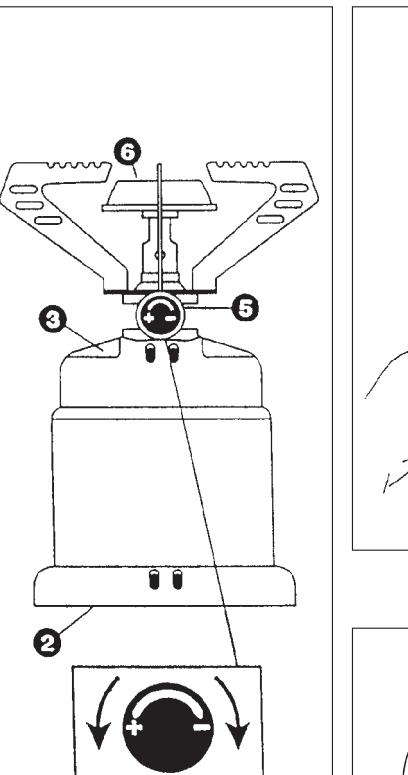

Fig 1
6) Check that the tap is closed by turning the control knob clockwise towards the "-" arrow (fig. 1).